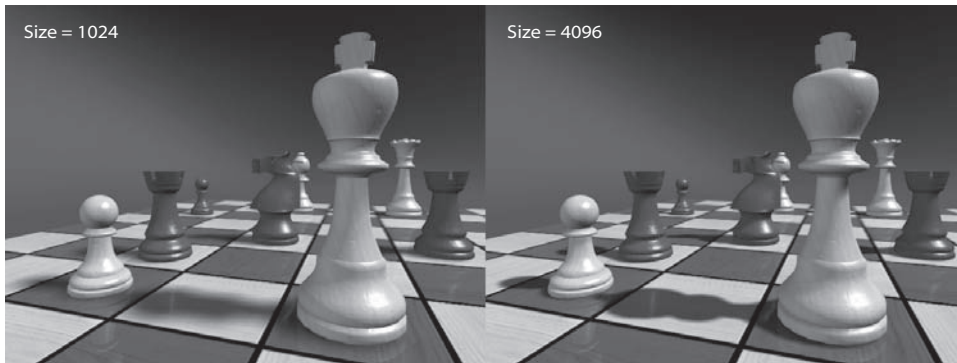

Figure 10.69
**Size** Detailed shadows will need detailed Shadow maps. Increase the Size value, and 3ds Max will increase the number of subdivisions for the map, which in turn increases the detail of the shadow cast. Figure 10.69 compares a low Shadow Map Size to render the chessboard with one four times larger. Notice how the shadows on the left (Size = 1024) are somewhat mushy and less noticeable and the shadows on the right (Size = 4096) are crisp and clean. You don't want to set your Shadow Map size to be too high, though. It will increase render time for little to no effect. A range around 2048 is usually good for most cases. Larger scenes like this chess board that have a large scale to them will require higher Size values such as the 4096 used. The rule of thumb is to use the lowest Size value that will get you the best result for your scene.